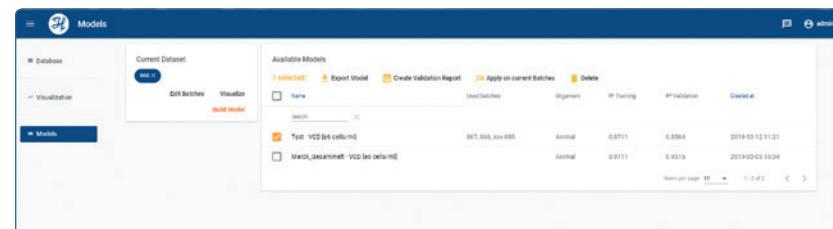

Figure 55: Application of an Arc Data Model to new Batches (item is placed in the upper row)
- 1) Select the model in the model area (figure 55).